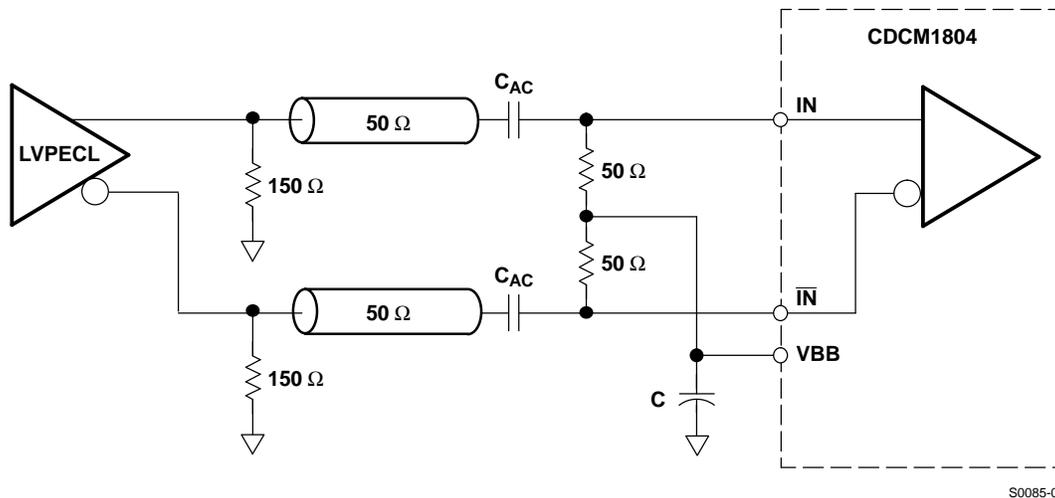

Figure 12. Recommended AC-Coupling LVPECL Receiver Input Termination
For optimized noise performance, it is recommended to properly terminate the PCB trace (transmission line). If a differential signal drives the CDCM1804, then a 100- Ω termination resistor is recommended to be placed as close as possible across the input terminals. An even better approach is to install $2 \times 50 \Omega$, with the center tap connected to a capacitor (C) to terminate odd-mode noise and make up for transmission-line mismatches. The VBB output can also be connected to the center tap to bias the input signal to ($V_{DD} - 1.3 \text{ V}$) (see Figure 12).